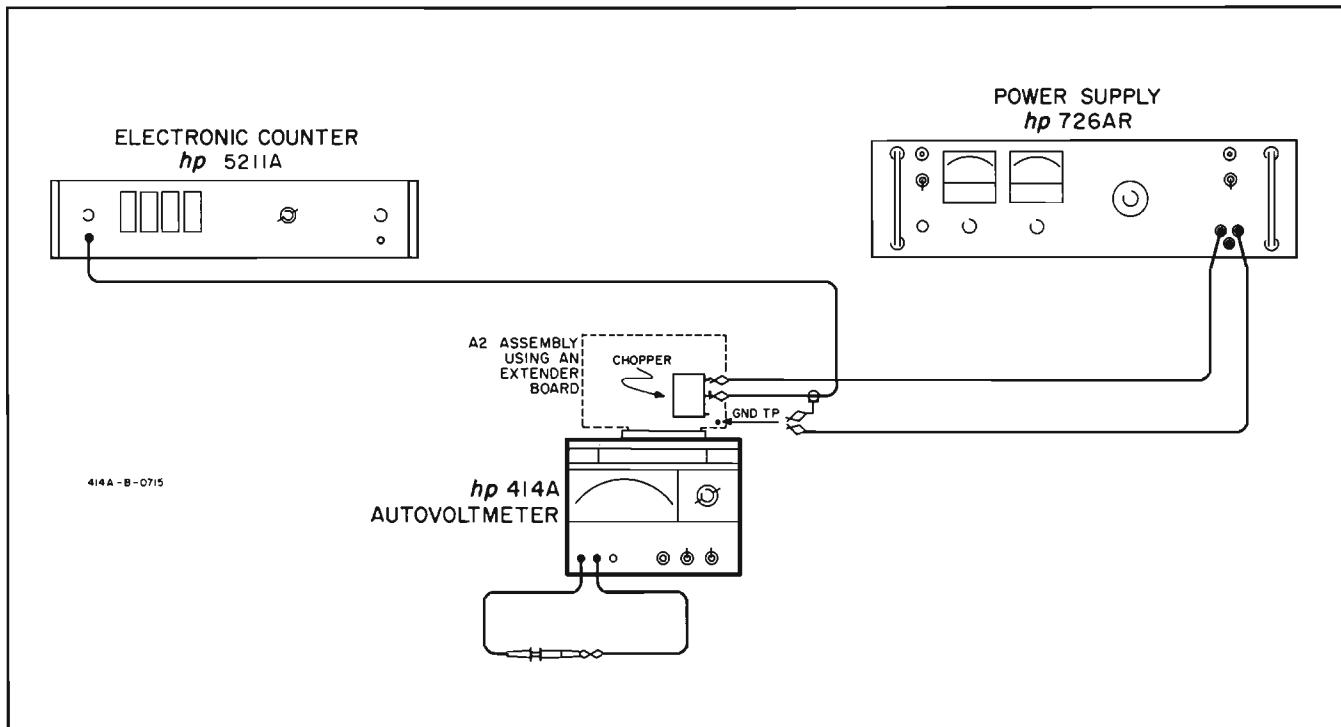

Figure 5-6. Chopper Frequency Adjustment
- b. Apply 1.5 volts across A2R36 from the power supply and connect the frequency counter between chopper side of A2C7 and power supply common as shown in Figure 5-6.